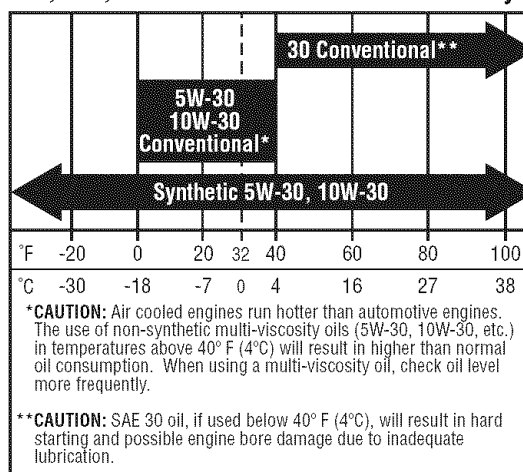
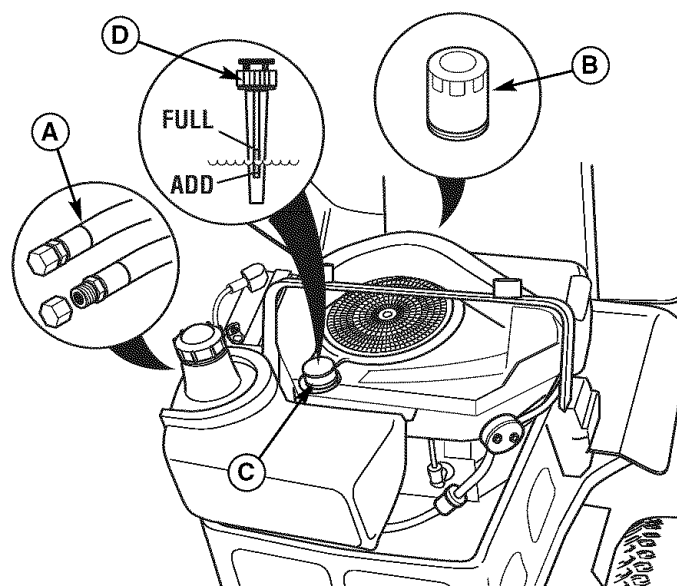

Figure 26. Recommended Engine Oil
Figure 27. Oil Change
2. Clean the area around the dip stick (C, Figure 27).
3. Remove the dip stick (C) and clean it with a paper towel.
4. Insert the dip stick back into the engine. Thread the cap back onto the tube (D).
5. Remove the dip stick and read the oil level. The oil level should be between the "FULL" and "ADD" marks (D). If not, add oil according to the oil recommendations chart (Figure 26).
1. Clean the area around the dip stick (C, Figure 27) and oil drain tube (A).
2. Remove the oil drain plug (A) from the end of the oil drain tube. Remove the dip stick (C). Allow ample time for complete drainage.
3. Reinstall the oil drain plug (A) and route the hose next to the engine.
1. Clean the area around the dip stick (C, Figure 27) and oil drain (A).
2. Remove the oil drain plug (A) and dip stick (C). Allow ample time for complete drainage.
3. Remove the oil filter (B). Discard the filter.
6. Reinstall the oil drain plug (A).